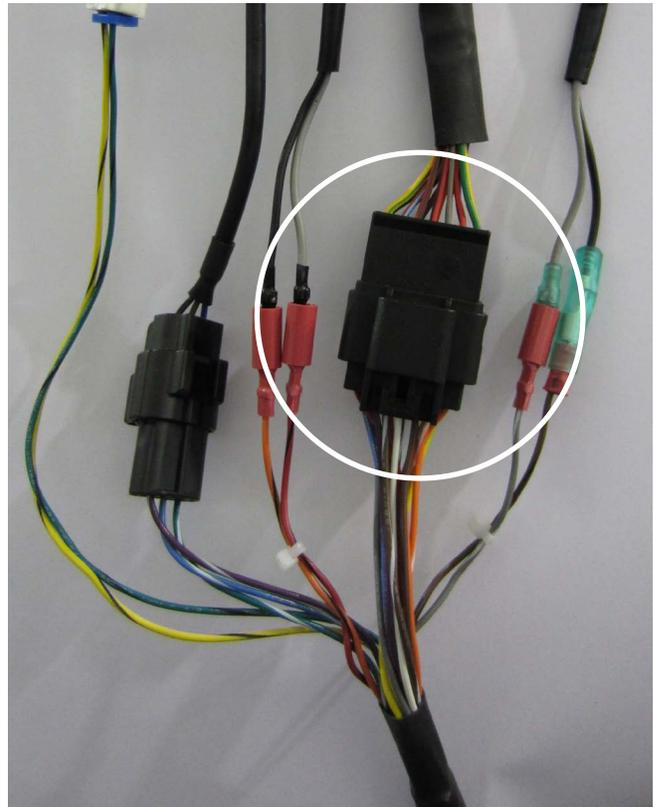

Figure 111: Control Cluster Harness
3. Disconnect the wire harness. See **Figure 111**.
6. Connect the wire harness. See **Figure 111**.